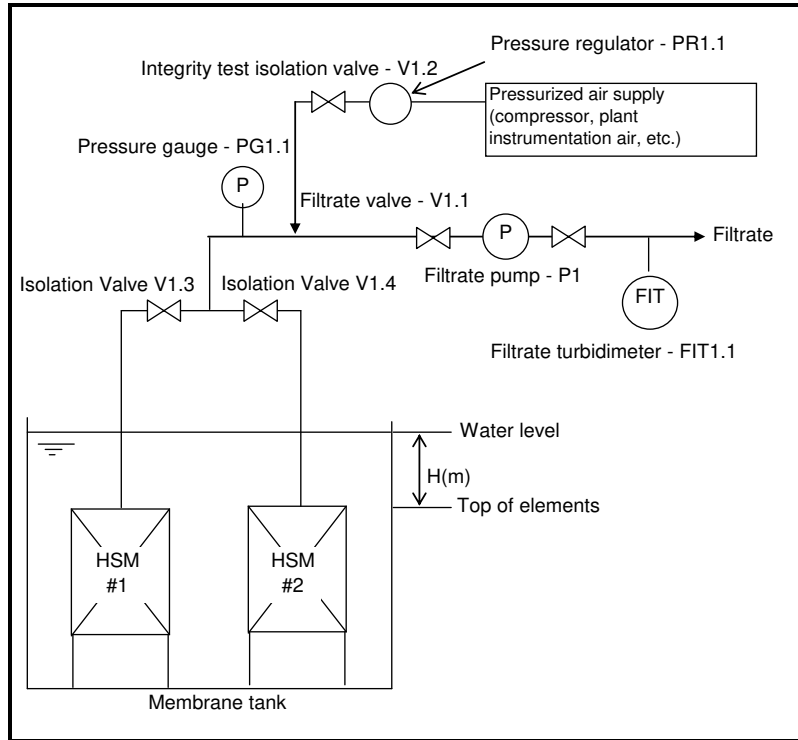

Figure 1: Simplified system schematic for pressure hold test
Configure a system as shown in Figure 1 to apply the specified pressure to the unit. Multiple module trains can be tested, but each module must be tested individually.
- 2) Close the train filtrate valve (V1.1 in Figure 1) and other module isolation valves in the test train (V1.4 in Figure 1). With the pressure regulator (PR1.1 in Figure 1) closed, open the integrity test isolation valve (V1.2 in Figure 1).
- 3) Slowly open the pressure regulator (PR1.1) until the pressure is 22 kPa + the water head (H) above the top of the elements ($(h \text{ (m)} \times 10) \text{ kPa}$). Record the pressure, P_o .
- c) If the pressure drop after five minutes is less than 7 kPa ($P_o - P_5 < 7 \text{ kPa}$), then integrity is confirmed for the test module (HSM #1 in Figure 1) piping and connections. Repeat procedure for all other modules, one module at a time.
Each HYDRAsub®-MBR system is divided into trains, which consist of sets of modules connected to a common header. Each train in a system should have a dedicated online turbidimeter (FIT1.1 in Figure 1) installed or provisions to divert filtrate from each train to a common turbidimeter. If the filtrate turbidity is above the maximum value allowed, then it would be necessary to isolate the train for further testing. Please note that sufficient time should be allowed to flush the turbidimeter if a common turbidimeter is used for multiple trains so as to displace filtrate in the lines from other trains. This is especially important if other trains have undergone cleaning (chemically enhanced backwash (CEB) or clean-in-place (CIP)) before the train being checked is tested. The PLC should be programmed so that the alarm set point for high-turbidity is raised for the train under study for a buffer period of 1 hour following CEB or CIP cleaning. For example, if the high-turbidity alarm set point is 0.5 NTU for regular operation, the set point can be increased to 2 NTU during a buffer period following CEB and CIP or the alarm can be disabled. These set points may vary for each system and will be specified by Hydranautics in the product and performance warranties for each project. As long as the filtrate turbidity remains below these set points, then system integrity is confirmed, **DO NOT PERFORM PRESSURE HOLD INTEGRITY TESTING.**
- 2) Close the train filtrate valve (V1.1 in Figure 1) and all other module isolation valves in the test train (V1.4 in Figure 1). With the pressure regulator (PR1.1 in Figure 1) closed, open the integrity test isolation valve (V1.2 in Figure 1).
After identifying the module(s) with the suspected integrity problem, remove the module(s) from the membrane tank according to TSB411 for further inspection. During removal, care should be taken to ensure that the filtrate hoses do not submerge into the mix liquor and get contaminated. Prior to removal, the filtrate isolation valve (V1.3 for HSM #1 and V1.4 for HSM #2 in Figure 1) for that particular module should be closed.